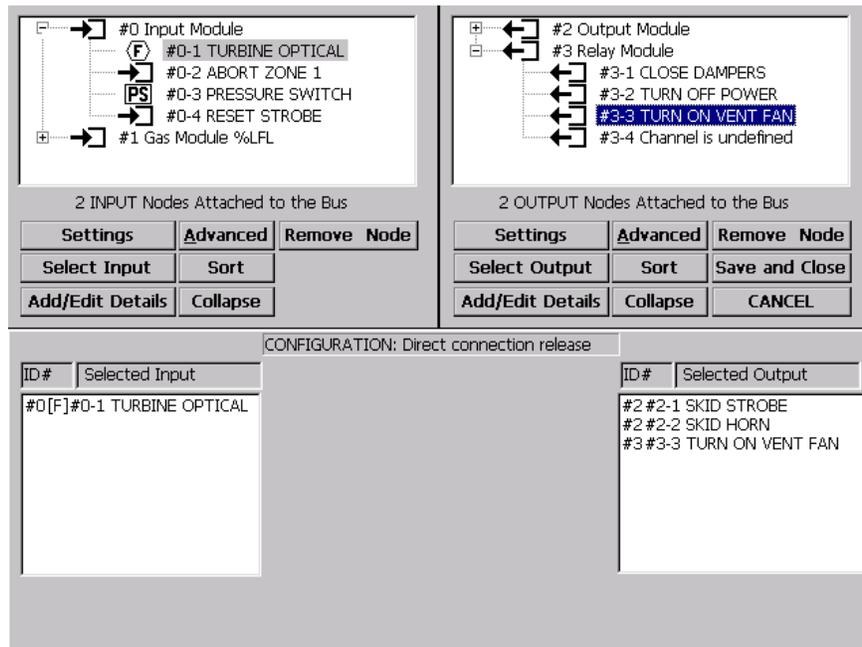

FIGURE 13.3 Selecting input nodes to trip outputs.
- Figure 13.3 illustrates that relay node channel 3 was selected for this example. SOM channels 1 and 2 were also selected.